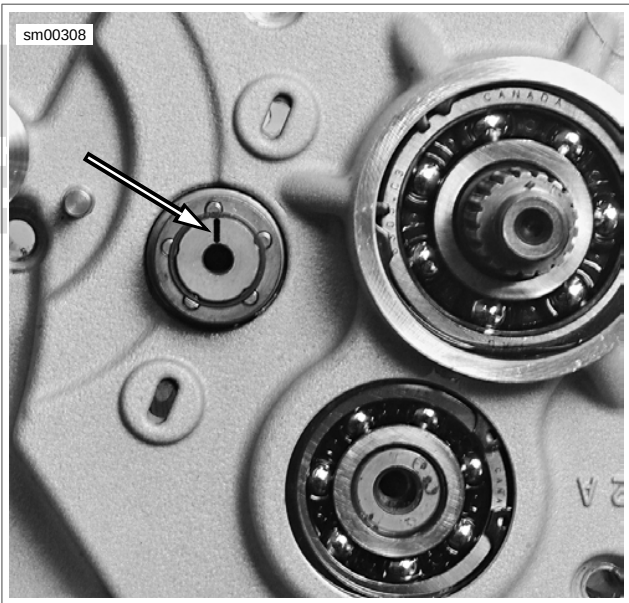

Figure 6-48. Shifter Drum and Mainshaft (Transmission in Neutral)
10. See Figure 6-48. With transmission still in neutral, scribe a line on the end of the shifter drum at the 12 o' clock position for later reference.